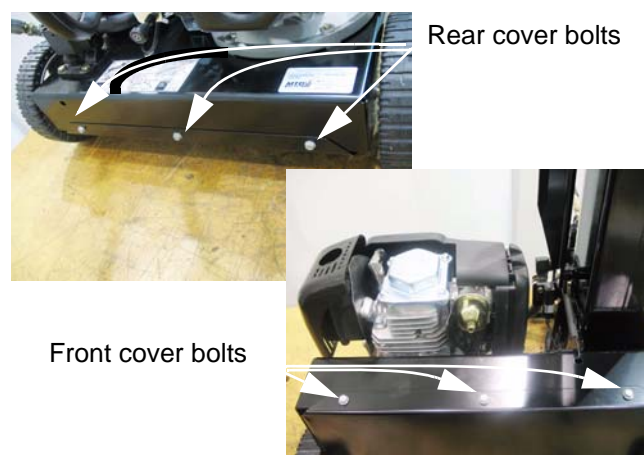

Figure 4.1
1.1. e. Remove the three bolts that hold the back edge of the belt cover to the frame using a 3/8" wrench. See Figure 4.1.
1.1. g. Remove the three bolts that hold the front (beam side) edge of the belt cover to the frame using a 3/8" wrench, and lift away the cover. See Figure 4.1.